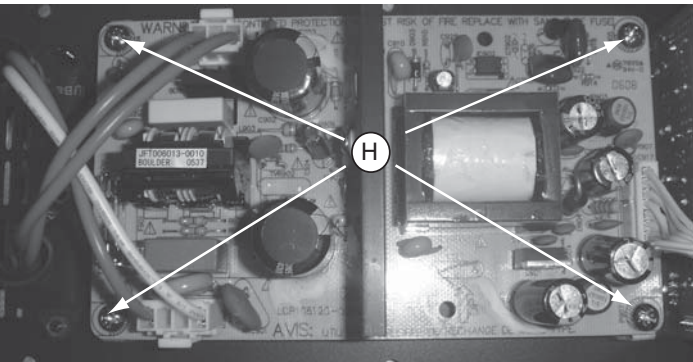

Figure 8
- 3) Loosen 4 screws "H" on the top of power board to dismantling the power board as shown in figure 8.